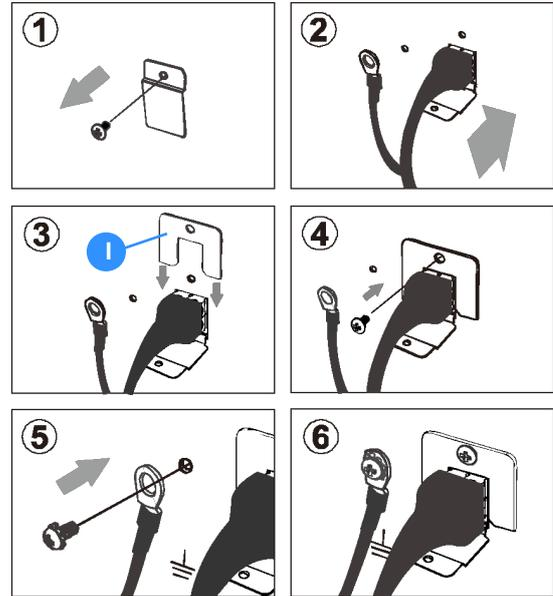

Figure 3.11 Battery cable connection
- Connect the battery cables to the UPS as described above and illustrated in Figure 3.11.
If an external battery cabinet is used, connect the battery power cable and protective earth cable to the UPS as shown in Figure 3.11.